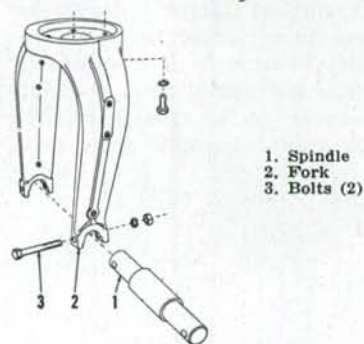

Fig. 1 — Exploded view of single front wheel fork and associated parts.
**1. WHEEL ASSEMBLY.** The single front wheel assembly may be removed after raising front of tractor and removing bolts (3—Fig. 1) at each end of front wheel spindle (1).
**2. R&R SINGLE FRONT WHEEL FORK.** Remove wheel assembly as outlined in paragraph 1. Then unbolt and remove fork (2—Fig. 1) from steering sector shaft (14—Fig. 14).